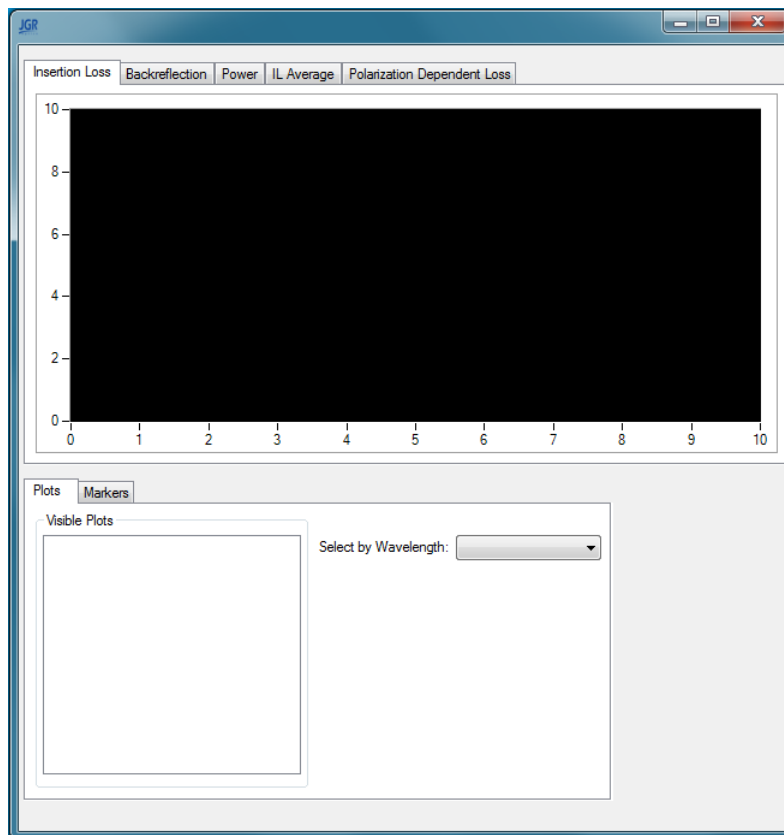

Figure 6.7: The graph screen when no test has been initiated.
- If a test is not running a window (Fig. 6.7) should appear. There will be tabs at the top to switch between Insertion Loss, Backreflection, Power, IL Average and Polarization Dependent Loss.